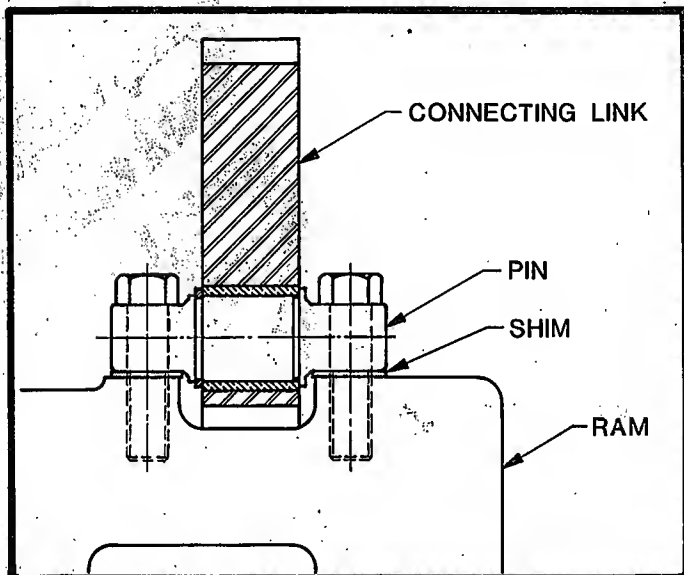

FIGURE 75
7. Adjust ram position (10 Series) - Refer to Figure 75: